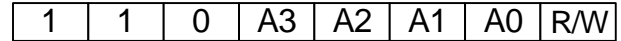

Figure 11: I²C-Compatible Device Address
Figure 11 shows an I²C-compatible device address, where A0~A3 is configured by the ADR pin. After a start (S) condition, the I²C-compatible master sends a 7-bit address, followed by an eighth data direction bit (where 1 = read and 0 = write).